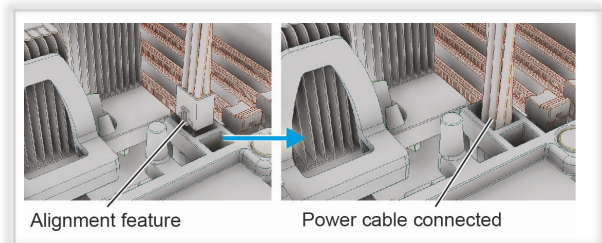

Figure 4: Connect the correct cable the motherboard
2. Push the connector on the power cable through the square hole in the bracket (part A) and into the socket on the motherboard. See Figure 4.